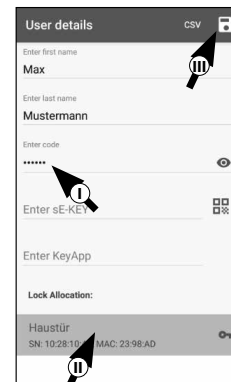

Fig. 32
- Enter a user-defined code (I) (Fig. 32).
- Next, assign a cylinder by tapping it in the list of cylinders already registered (II) (Fig. 32).
- The user has now been assigned the user code and the selected lock within the KeyApp (Fig. 32). The programming process must be started so that the cylinder also receives this information. The corresponding description can be found in the chapter "Programming/ Updating the cylinder" on page 11.